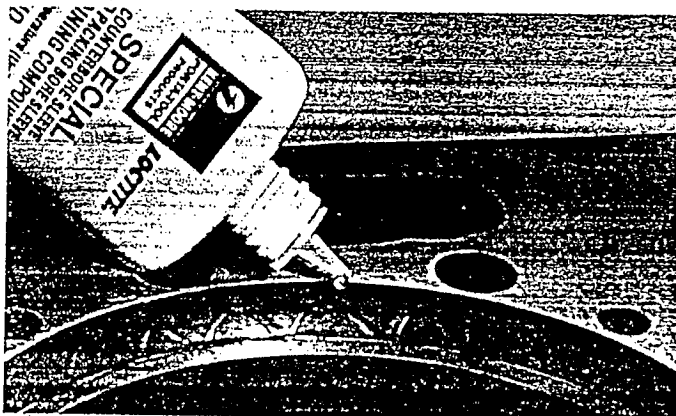
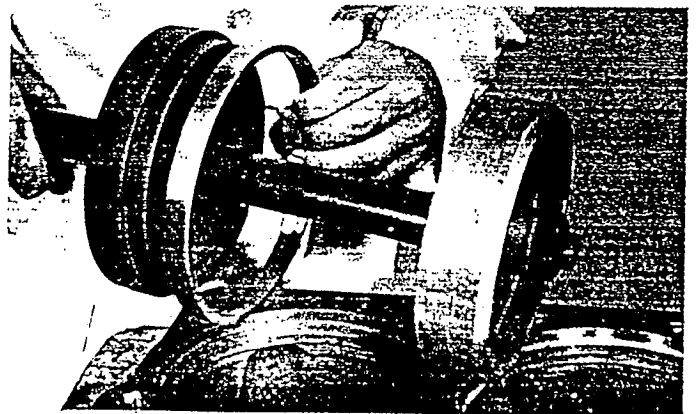

FIGURE 18
FIGURE 19
2. Lightly coat the inside diameter and bottom of newly cut bore with PT 7260 Loctite Compound. (See Figure 18.) Insert bushing on driver. (See Figure 19.) Using